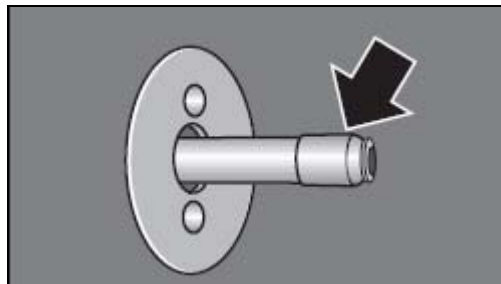

Figure 001-23: Coupling Piece on Inside of Door
The coupling piece is not lubricated and jams in the brew unit. The coupling piece on the interior of the appliance door, Figure 001-23, has not been lubricated in accordance with the operating instructions. It jams in the brew unit.
1. Lubricate the coupling piece, Figure 001-23.